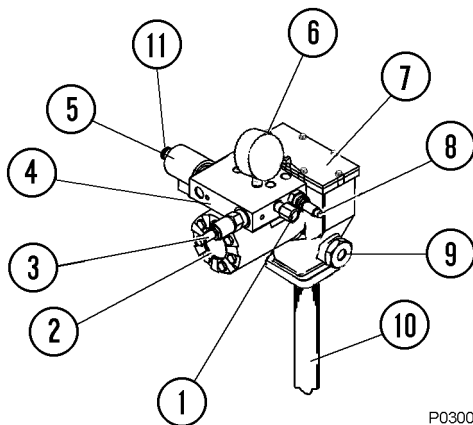
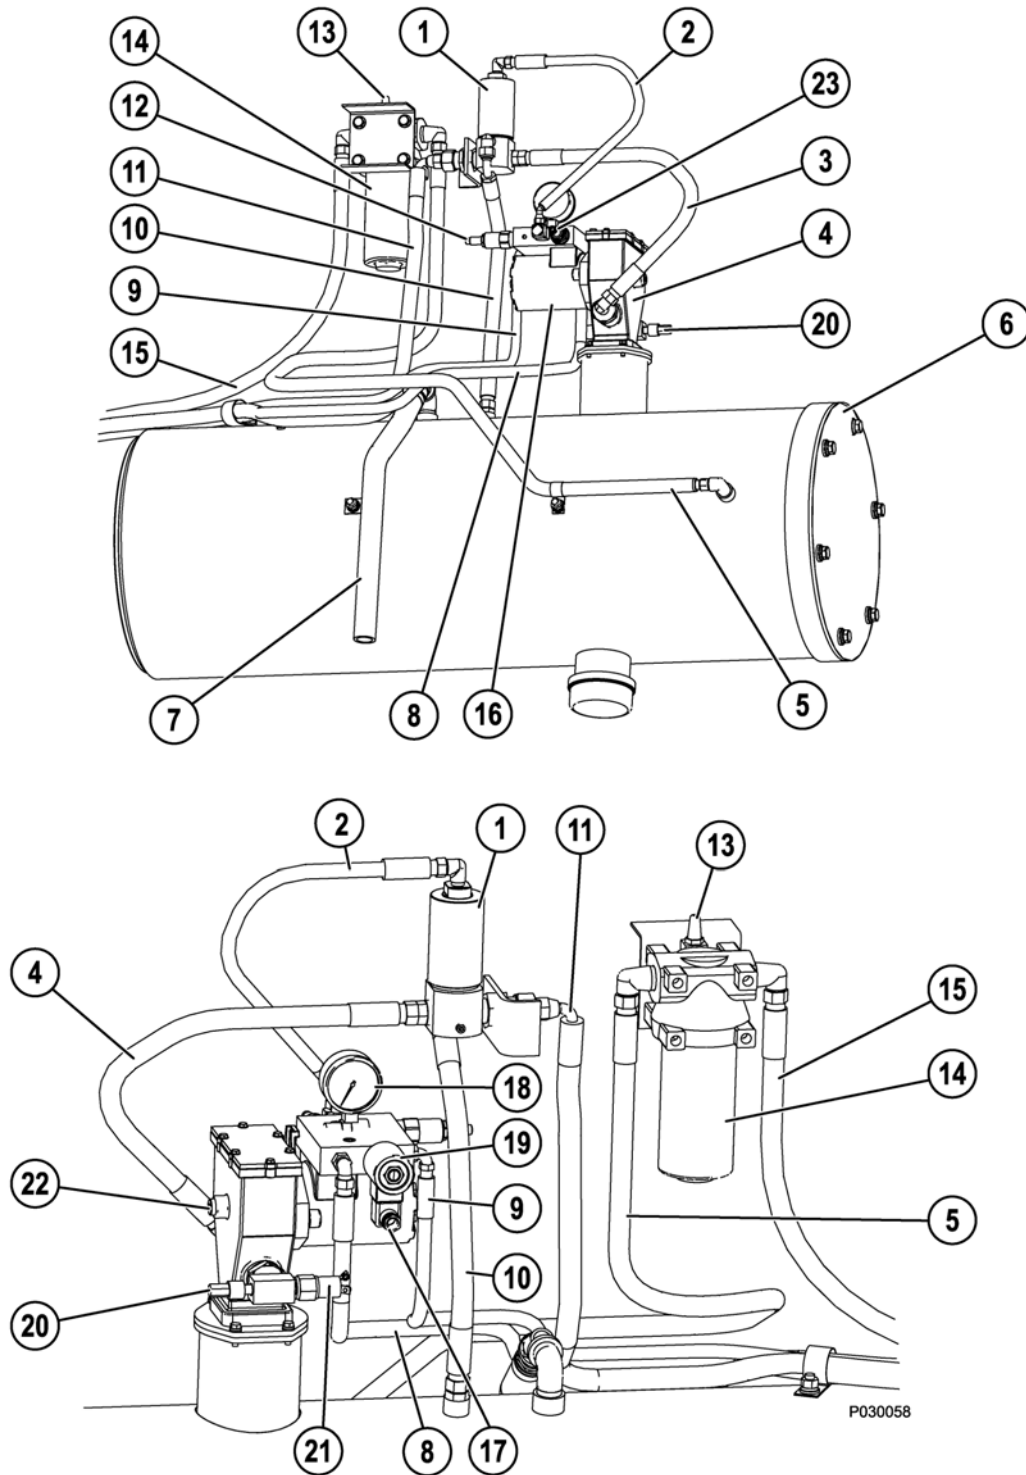

FIGURE 42-1. PUMP COMPONENTS
FIGURE 42-3. AUTO LUBRICATION SYSTEM (FRONT AND REAR VIEW)
Grease output is proportional to the hydraulic motor input flow. A pump control manifold (4, Figure 42-1), mounted on top of hydraulic motor (2), controls input flow and pressure. 24VDC solenoid (5) mounted on the manifold turns the pump on and off.
Filter assembly (14, Figure 42-3) filters the grease prior to refilling reservoir (6) from the shop supply. Dirty filter indicator (13) alerts service personnel when the filter requires replacement.
Hydraulic motor and grease pump (16 & 4, Figure 42-3) is a hydraulically operated grease pump. Integrated pump control manifold (4, Figure 42-1) is incorporated with the motor to control input flow and pressure.
NOTE: The pump crankcase oil level must be maintained to the level of oil fill plug (22, Figure 42-3). If necessary, refill with 10W-30 motor oil.
Pressure reducing valve (12, Figure 42-3), located on the manifold, is preset and reduces the hydraulic supply pressure from the truck steering circuit to a suitable operating pressure of 2240 - 2415 kPa (325 - 350 psi) for the hydraulic motor used to drive the lubricant pump.
Flow control valve (23, Figure 42-3), mounted on the manifold, is preset and controls the amount of oil flow to the hydraulic motor at 2.5 GPM (9.5 L/min).
With vent valve (1, Figure 42-3) closed, the pump continues to operate until maximum grease pressure is achieved. As this occurs, the vent valve opens and allows the grease pressure to drop to zero, so the injectors can recharge for their next output cycle.
Lubrication cycle timer (2, Figure 42-11) provides a 24VDC timed-interval signal to operate solenoid valve (19, Figure 42-3), causing the grease pump motor to operate. This timer is mounted in the cab interface compartment.
Pump cutoff pressure switch (21, Figure 42-3) is a normally open switch set at 20685 kPa (3000 psi). This switch de-energizes the pump solenoid relay when the grease line pressure reaches the switch pressure setting, turning off the motor and pump.
Pressure gauge (18, Figure 42-3) monitors hydraulic oil pressure to the inlet of the hydraulic motor.
Manual override button (17, Figure 42-3) is used to actuate the hydraulic motor to manually activate a lubrication cycle.
Injectors deliver a controlled amount of pressurized lubricant to a designated lubrication point. Refer to Figure 42-3 and 42-4 for the locations of each lubricated component.